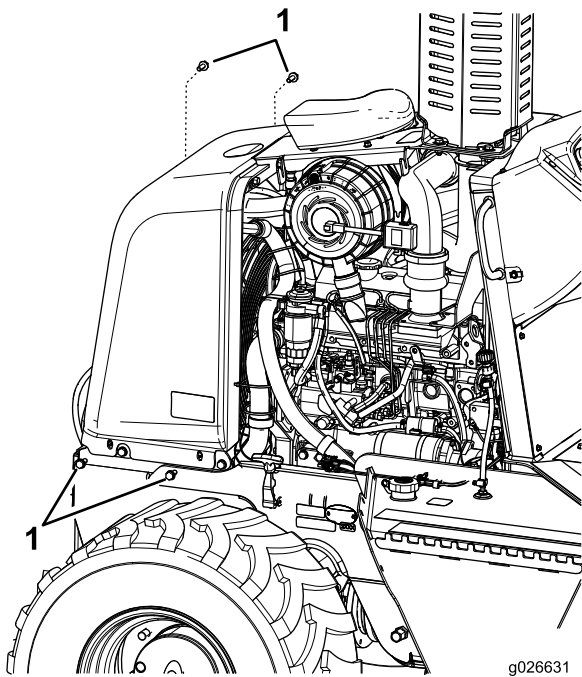

Figure 38
3. Remove the 4 bolts at the bottom of the left and right sides of the nose panel (Figure 38).